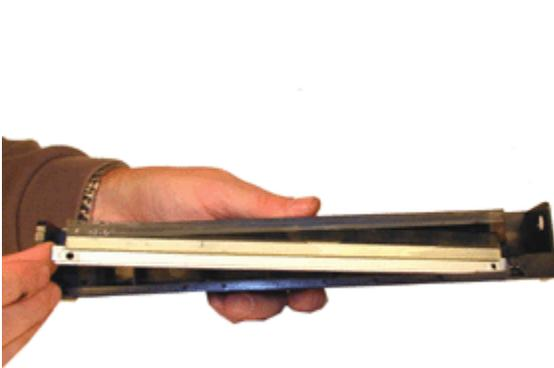

FIGURE 13
14. Coat the wiper blade with either Kynar or your normal WB lubricant that works with PCR type cartridges. Install the wiper blade and two screws. Make sure that the blade "snaps" in place. It is a very tight fit. See Figure 13.